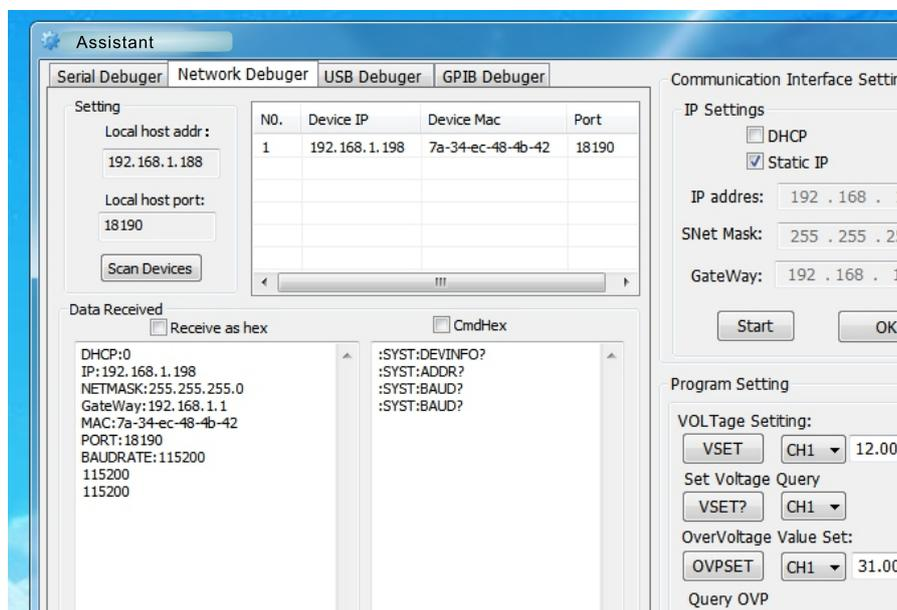

Figure 3.1
2. "Find device", automatically search for devices in the current LAN, and display the current online device in the list box, Figure 3.1